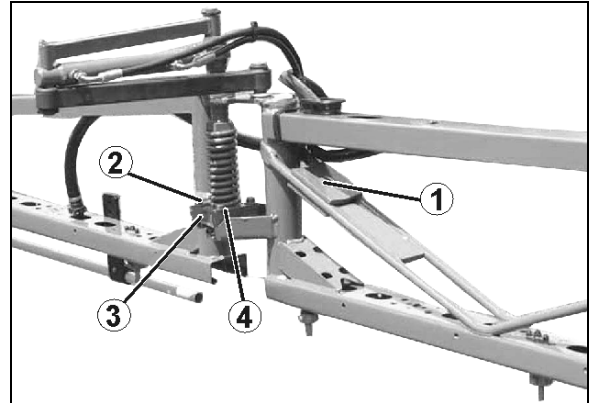

Fig. 186
If this is not the case, with the swing compensation **unlocked** align the folded-out sprayer boom by means of counterweights (Fig. 186/1). Secure the counterweights to the boom extension accordingly.
1. Release the screws (Fig. 186/2) of the securing link (Fig. 186/3). The boom is aligned directly at the plastic catch (Fig. 186/4) through the slotted holes of the securing link.
3. Tighten the screws (Fig. 186/2).